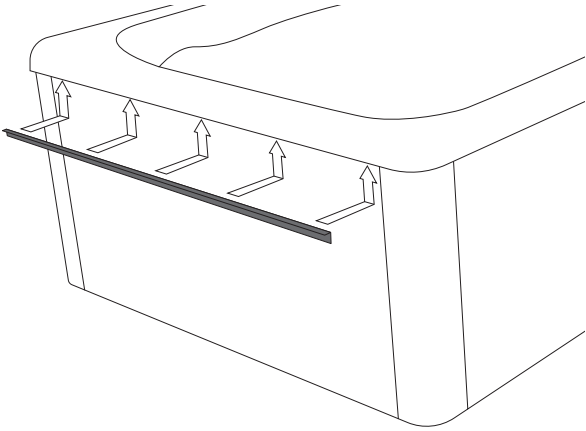
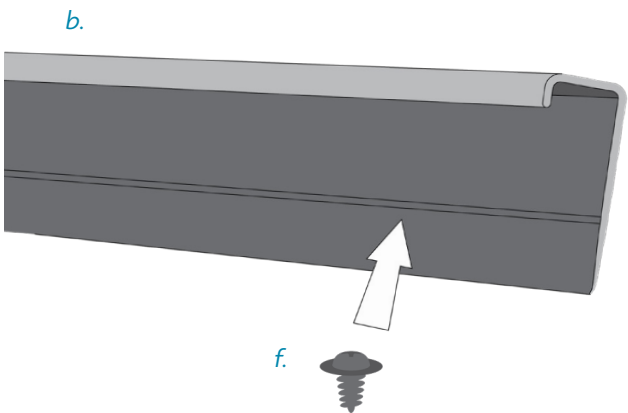

FIGURE 2
FIGURE 3
- 2.** **LEVER CHANNEL** Install Lever Channels (b) to both 8' ends of the swim spa skirting (Figure 2). Center Lever Channel on the swim spa skirting against the swim spa shell flange with "L" side up (Figure 3). Use 5 of the #8x $\frac{1}{2}$ " screws (f) to mount this. First, install 1 screw into the channel groove at each end, 1" from the end (Figure 3). Then, space the remaining 3 screws evenly across the Lever Channel. Repeat for the opposite end of the swim spa.